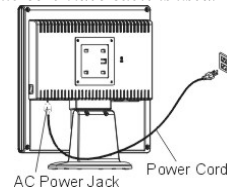

Figure 1-6
1. Connect the power cord to the LCD Monitor.(See Fig. 1-6)